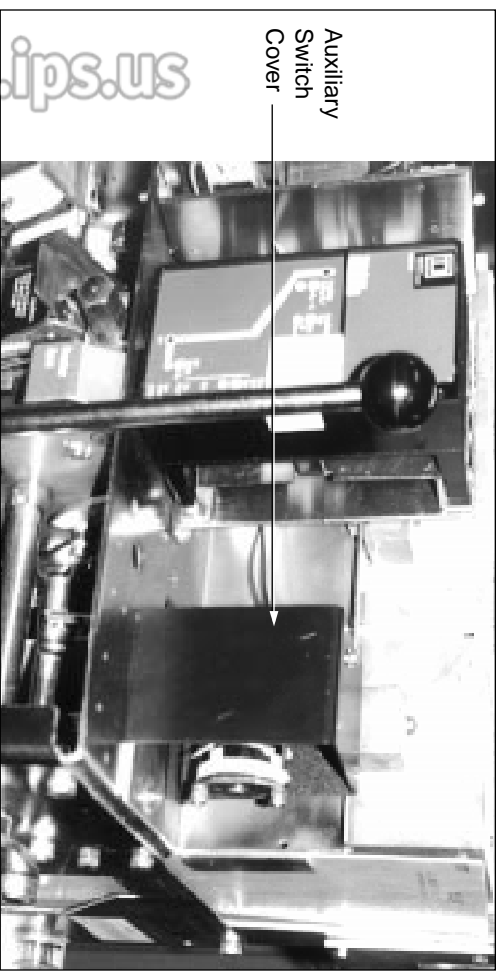

Figure 13: Auxiliary switch with cover
4. Mount the auxiliary switch cover using the supplied hardware as shown in Figure 13.